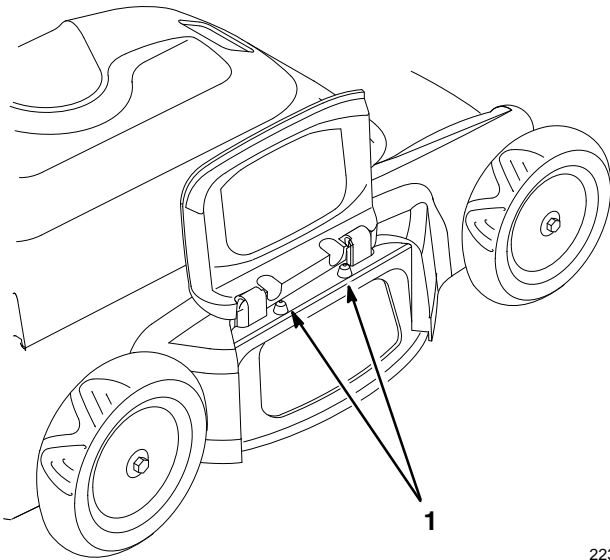

Figure 8
2. Hook side discharge chute onto pegs (Fig. 8 & 9).